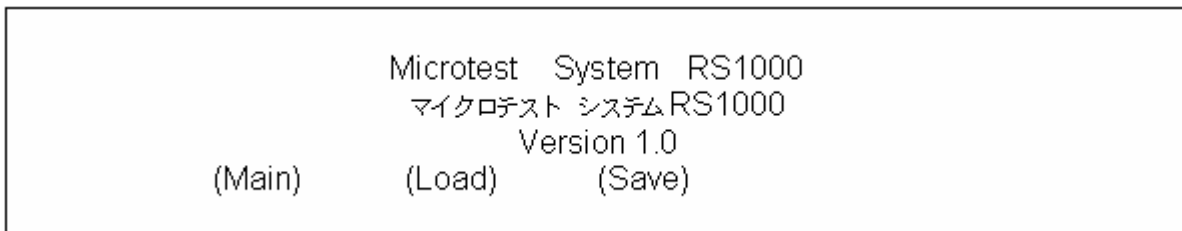

Fig. 02
Step 1: Turn on the RS1000 tester system by switching on the power switch. The following screen will first appear on the LCD display. (Fig. 02)
The PC will only recognize the tester when the USB cable is connected on the first LCD screen as shown in Fig. 02.